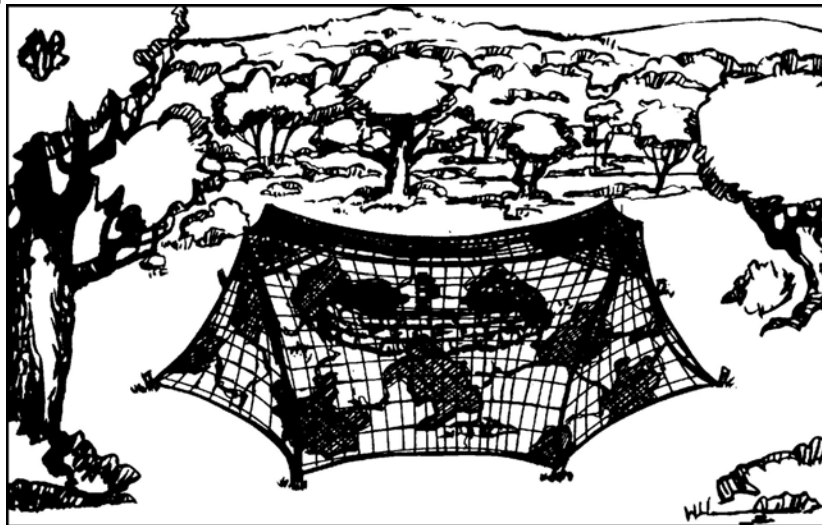

Figure 1. Nets Used for Camouflage
- (1) When using nets with either the ground-mounted or carrier-mounted mortar, raise the nets above the ground-mounted position or the top of the carrier (Figure 1).